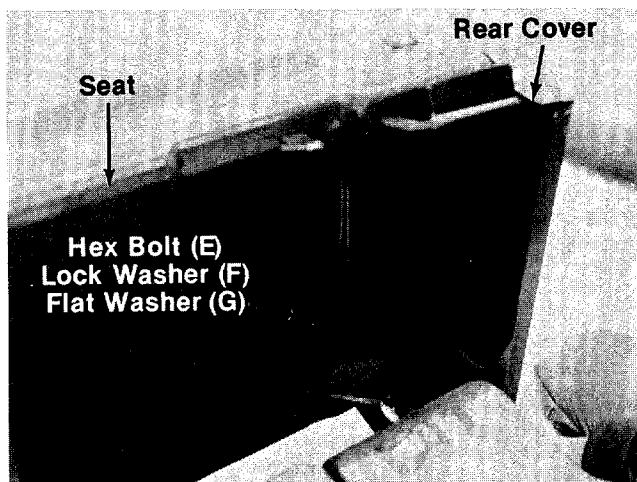

FIGURE 4.
2. Place the seat over cover and fasten with four hex bolts (E), lock washers (F) and flat washers (G). See figure 4.